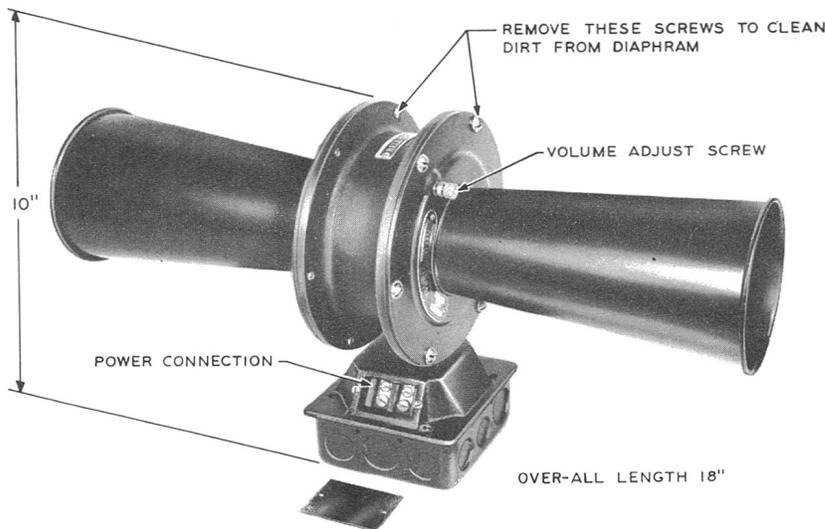

Fig. 10 – KS-8228, List 1 Signal Horn
4.05 The volume of the KS-8228 signal horn may be adjusted by a screw and locknut (see Fig. 10). Dirt may collect between the diaphragm and front plate. In these cases, remove the front plate and brush out dirt. Note horn plate position before removal so that it may be replaced in its identical position. Defective horns should be replaced.